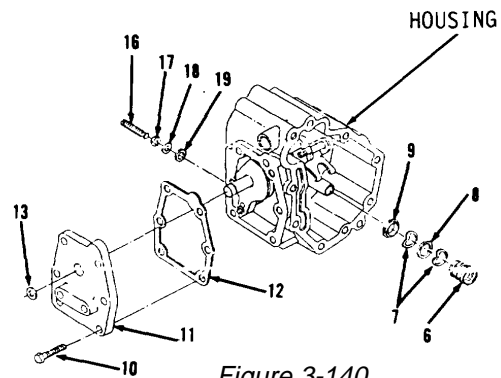

Figure 3-140.
53. Install new washer (19), washer (18), nut (17) and screw (16, Figure 3-140).
54. Using suitable driver and hammer, install new seal (13) with lip facing in.
55. Using clean oil, lubricate lip of new seal (13).
56. Position new gasket (12) and cover (11).
57. Install six bolts (10).
58. Install seat (9), washer (8), two washers (7) and spring (6).